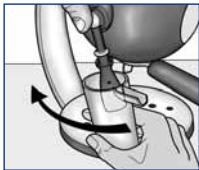

Fig. 10
- When the steam is all out, move the device (3) back to its initial position, pushing it back with the measure (Fig. 10).
milk is ready following the direction of rotation of the device (3) as shown in (Fig. 9). During steam dispensing the sound signal may go on and off, indicating that the boiler is maintaining its temperature. The steam jet shuts off automatically as the MAXI CAPPUCCINO device is brought back into its original position by pushing it back using the milk container (Fig.10).
- To stop the jet of steam, release the button (4) or bring the MAXI CAPPUCCINO device back to its original position by rotating it back as shown in Fig. 10.